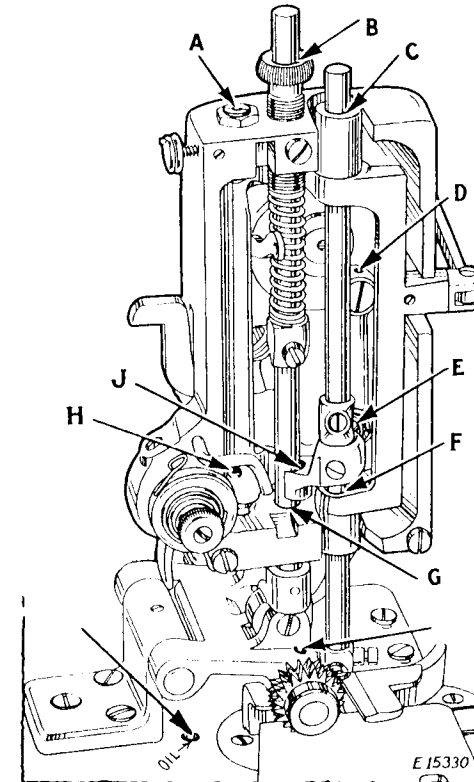

Fig. 2. Oiling Points at the Face (Left Hand End) of Machine
Apply a drop or two of oil at (A, Fig. 2) for the upper end of the needle bar frame; at (B) where the presser bar is in contact with the upper bushing; at (C) where the needle bar passes through the upper bushing; to the oil hole at (D) at the upper end of the needle bar connecting link; at (E) where the lower end of the needle bar link is attached to the needle bar connecting stud; at (F) where the needle bar passes through the lower bushing; at (G) where the lower end of the presser bar passes through the machine casting; to the oil hole (H) at the lower end of the needle bar frame, and at (J) where the fork of the needle bar connecting stud slides on the presser bar.
Also apply a drop or two of oil at each of the other oil holes indicated by the unlettered arrows in Figs. 2, 3 and 4.